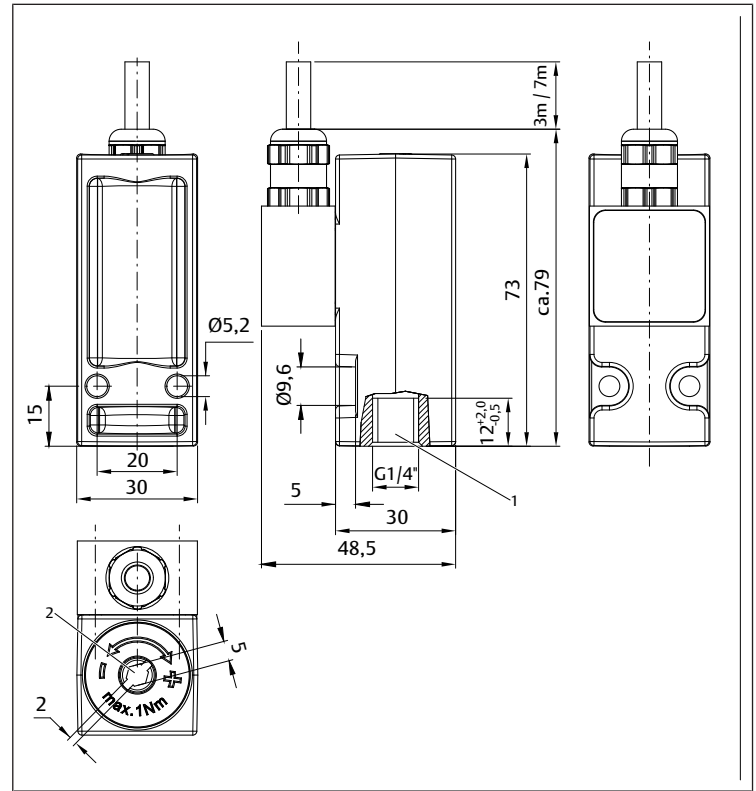

Fig. 2: Pneumatic connection, internal thread G1/4
- Connection G1/4: $M_A = 12^{+1}$ Nm (see → Fig. 2)